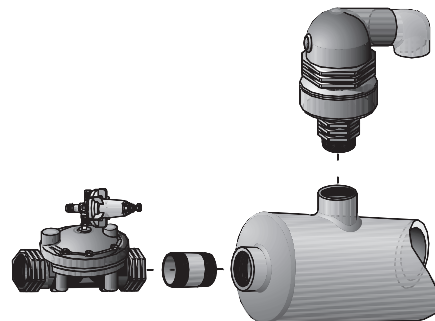

FIGURE 6 - Air Vent and Quick Reacting Relief Valve assembly
- Install the 2” Combination Air Vent onto the inlet manifold. See Figure 6.
- Install the 2” Quick Reacting Relief Valve to the inlet manifold using a 2” Threaded nipple. See Figure 6.